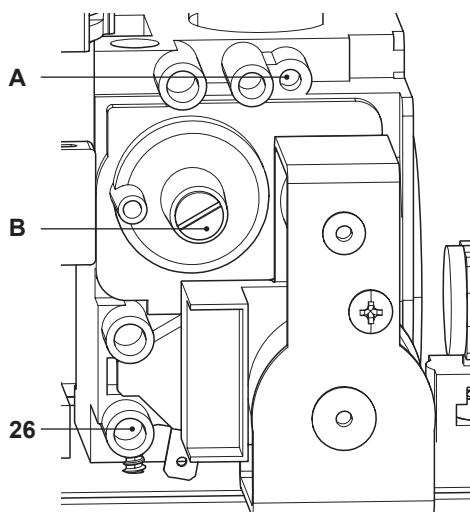

Fig. 7.8
- With the boiler switched on at full rate (maximum output power), check the supply pressure by using the 26 point in Fig. 7.8 and compare the value with that reported on the Gas supply pressure table (minimum inlet pressure) in the "Technical Data" section (page 24 **ADVANCE 25S** and page 27 **ADVANCE 30S**).
- Ensure the test nipple 26 in Fig. 7.8 is